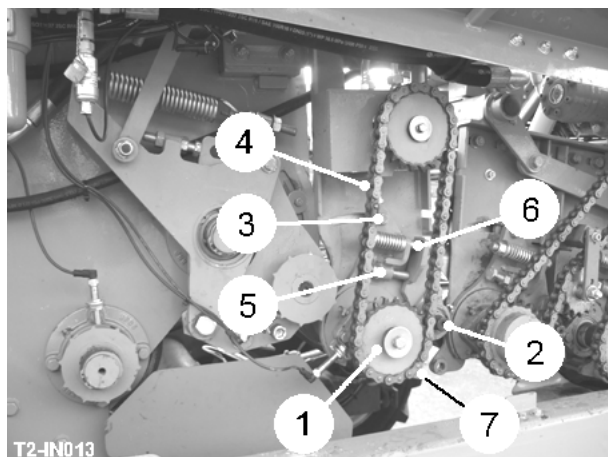

Fig 15
The Omega feed unit is positioned immediately behind the haulm roller. The unit consists of one row of polyurethane scrolls (item 1, fig 15) and one Ø85mm rubber clod roller (item 2, fig 15). The 1st unit is run with the clod roller rotating with the crop flow to move the crop away from the haulm roller. Speed of the unit can be adjusted from the service terminal screen.
To set the height of the clod roller (item 2, fig 15) relative to the scroll shaft, loosen the clamp bolts (item 3, fig 15) and rotate the clod roller mounting plate in the slot as required. Ensure both sides are adjusted evenly. The drive chain tension is set by releasing the motor mounting bolts and adjusting the jacking screw (item 4, fig 15).
The clod rollers will normally be adjusted to run approximately 1 to 2 mm away from the tip of the scrolls for effective haulm removal. The clod roller gap is set by adjusting the stop bolts (item 5, fig 15) against the spring tension on the clod roller mounting plates. Spring tension is adjusted on the spring tie bolts (item 6, fig 15).
Each clod roller is fitted with a scraper (item 7, fig 15) which needs to be closely adjusted to remove loose soil from the rollers.